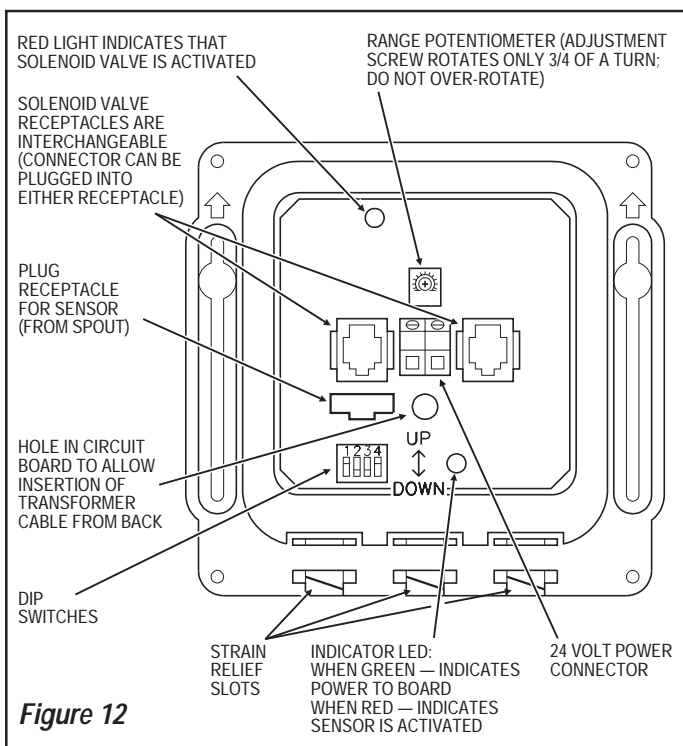

Figure 12
**Note:** The Control Module is equipped with two LED lights. When the Board is being powered by the Transformer, one LED will illuminate green. When the Sensor is activated, this LED will change to red. A second red LED illuminates when the Solenoid Valve is activated. Refer to Figure 12.
The Range Potentiometer and Dip Switches are located in the Control Module as shown in Figure 12.
Refer to the label on cover of Control Module along with the following instructions to set the desired Time Out. The Dip Switches used to set the Time Out are located in the Control Module as shown in Figure 12.